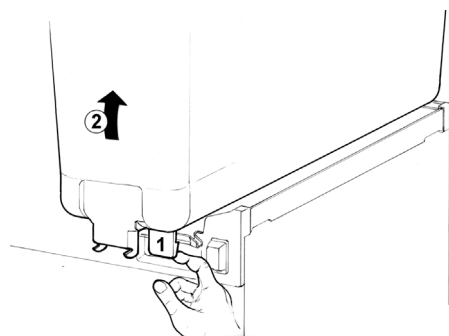

figure 1
- 2 Remove the empty bowl by lifting pulling lever (1) and its front side (faucet side) up and off bowl gasket (see figure 1).